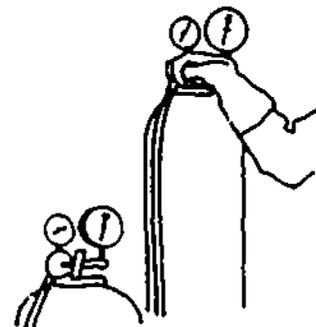

Figure 18-12. Opening Torch Needle Valve and Regulating Oxygen
j) Open the needle valve of the torch and turn the oxygen regulator-adjusting screw until the desired working pressure is indicated, then close the needle valve (Figure 18-12).